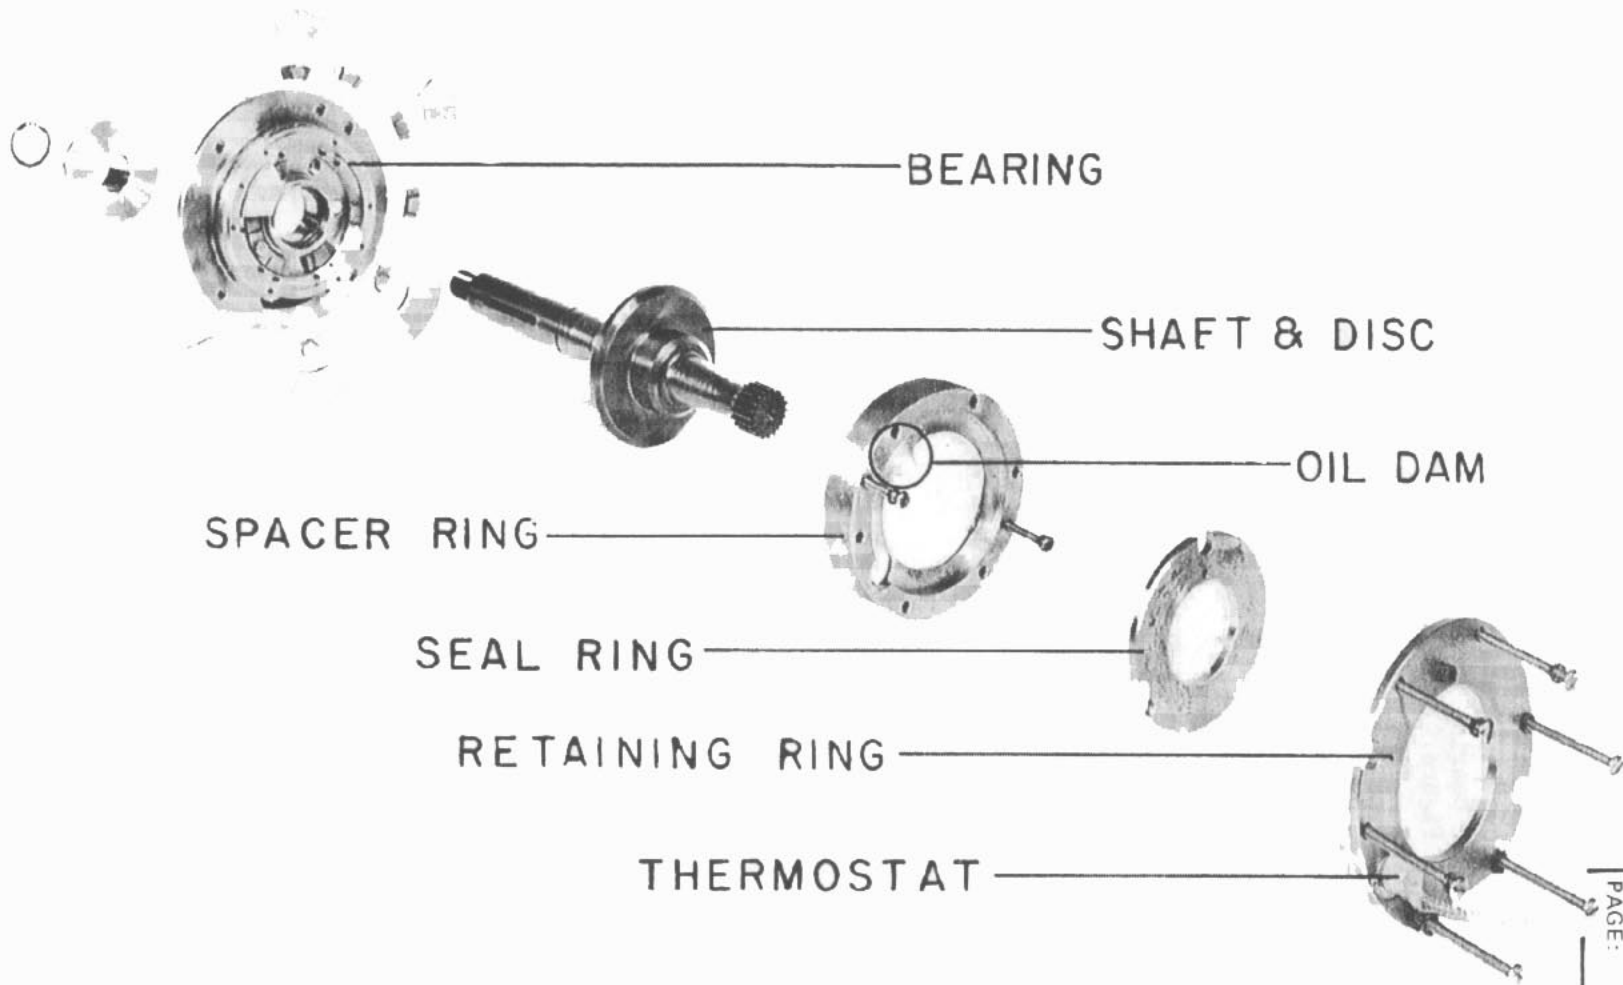

FIGURE 5
4. Remove retainer ring, seal ring, and spacer dam (refer to Figure 5) and install similar parts plus thermostat from kit. See CAUTION Note on page 6.